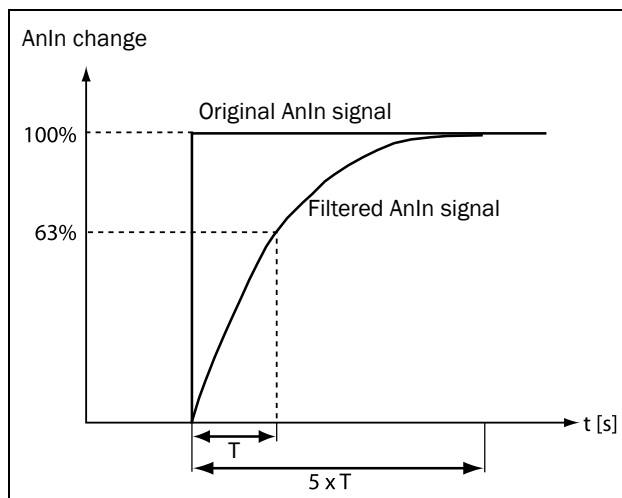

Fig. 53
If the input signal is unstable (e.g. fluctuation reference value), the filter can be used to stabilise the signal. See Fig. 53. This will result in a 63% change of the input signal within the set "AnIn Filter time" (T). After 5 times the set time (i.e. 5xT), AnIn will have reached 100% of the input change.